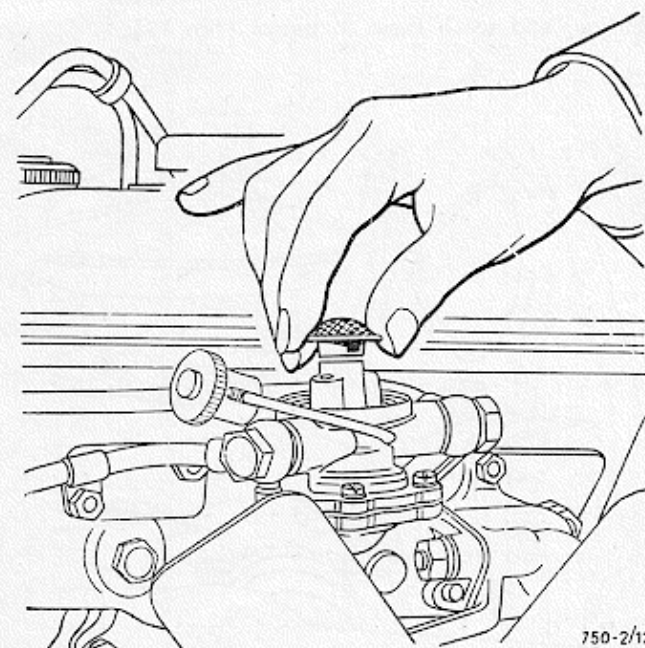

Fig. 12 - Removing the filter from the petrol (gasoline) pump
e) Remove the cup on the body of the fuel pump, **take out the gauze filter** and carefully wash it in petrol (fig. 12).